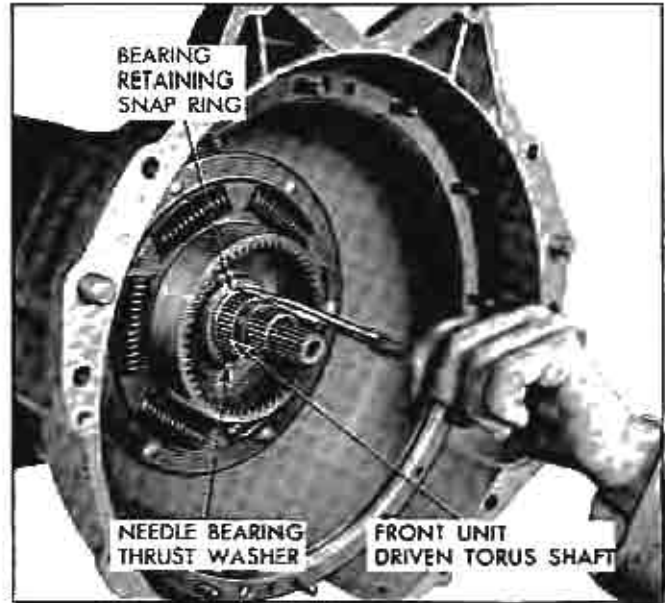

Fig. 175 Installing Bearing Retaining Snap Ring
10. Secure needle bearing and washers by installing snap ring in groove of front coupling driven torus shaft (Fig. 175).